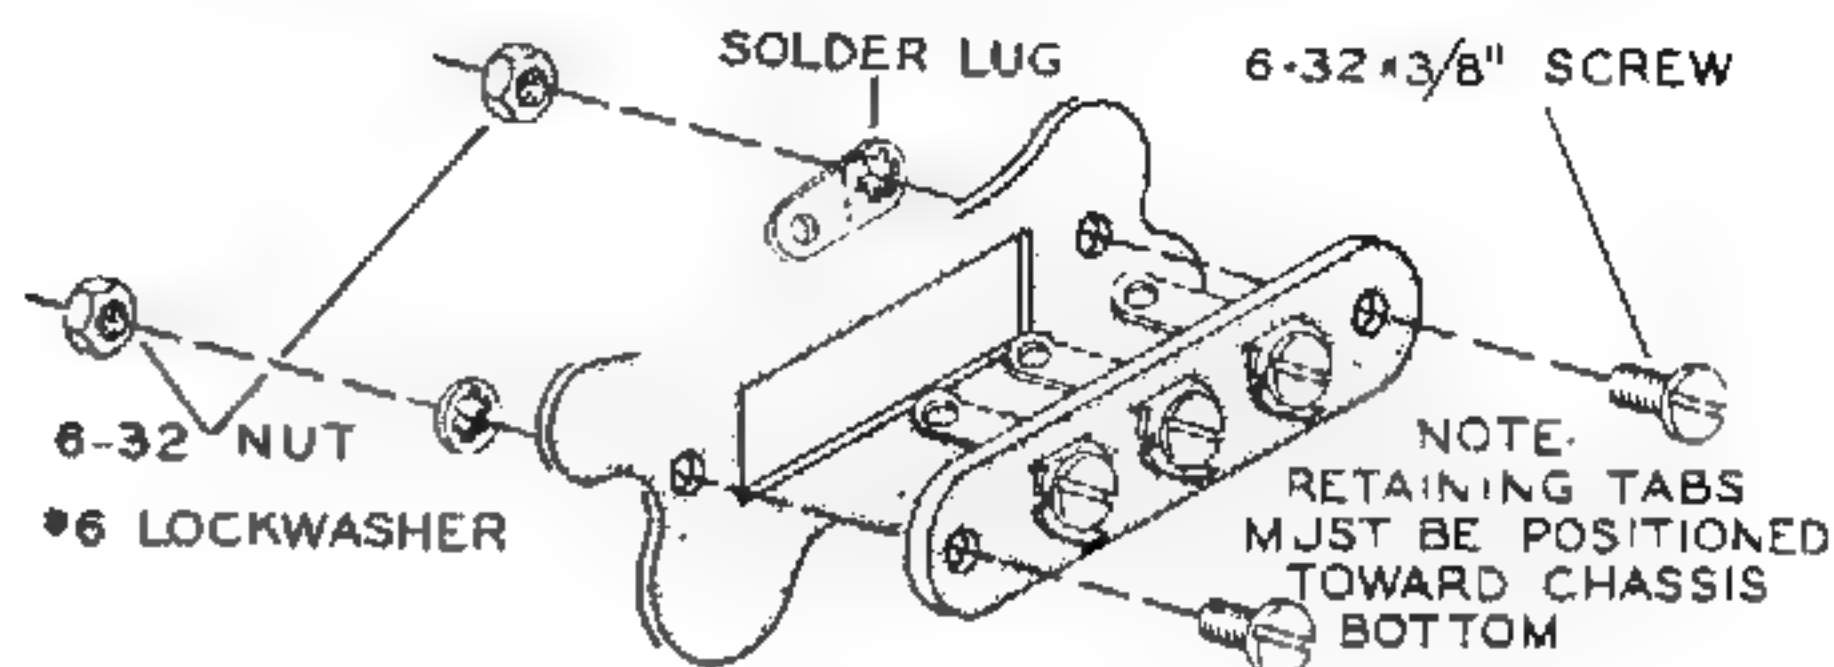

Figure 3
- (✓) Referring to Figure 3, install a 3-lug screw-type terminal strip and a #6 solder lug at W. Use 6-32 x 3/8" screws, #6 lockwashers, and 6-32 nuts. The solder lug goes on the mounting screw nearest hole U.